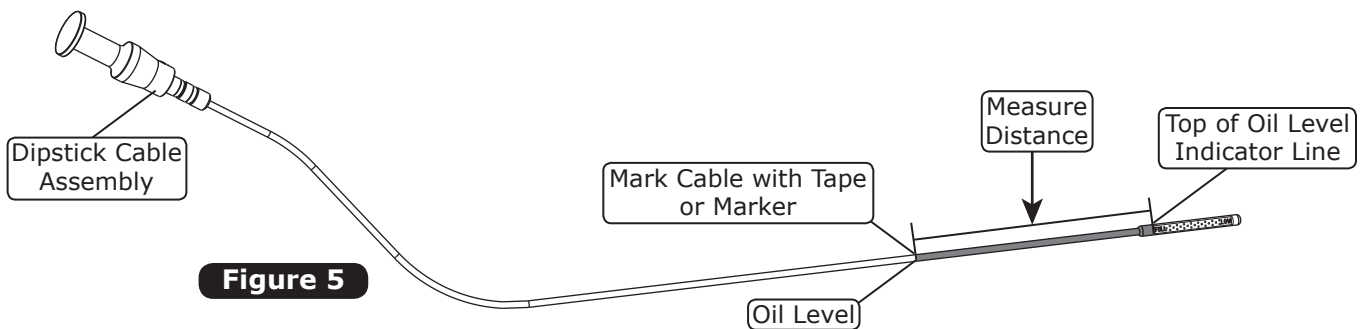

Figure 5
2. Ensure the dipstick cable assembly is fully seated, and remove the dipstick cable assembly from the dipstick tube. Note the oil level as shown in Figure 5, below. Mark the level with tape or a marker, and repeat this step to verify the correct marking.